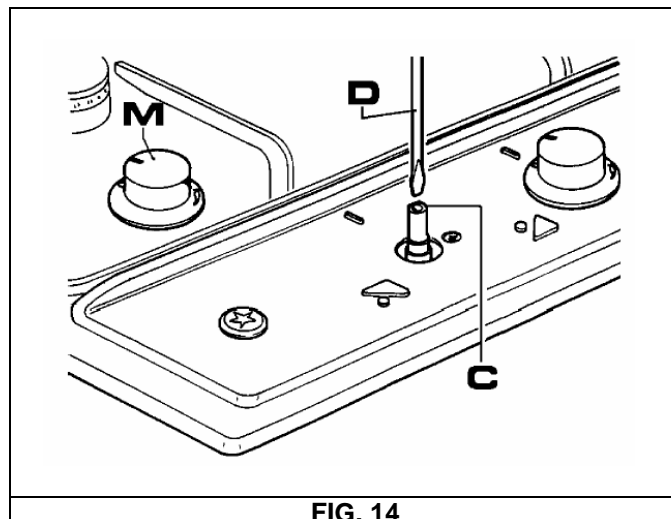

FIG. 14
- Remove knob “M” (fig. 14) of the tap, which is simply pressed on to its rod.
- Insert a small screwdriver “D” into hole “C” (fig. 14) and turn the throttle screw to the right or left until the burner flame has been adequately regulated to the “Reduced rate” position.